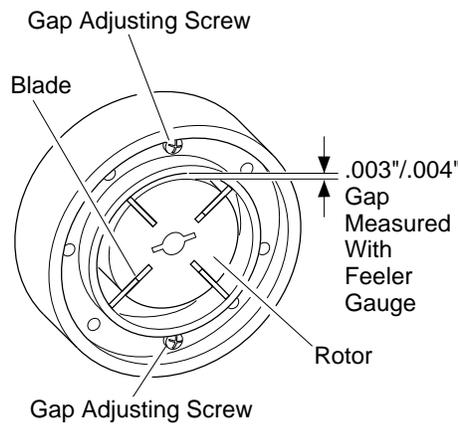

Figure 18 - Gap Adjusting Screw Locations
9. Check gap on rotor. Adjust to .003"/.004" if needed (see Figure 18). **Note:** Rotate rotor one full turn to insure the gap is .003"/.004" at tightest position. Adjust if needed.